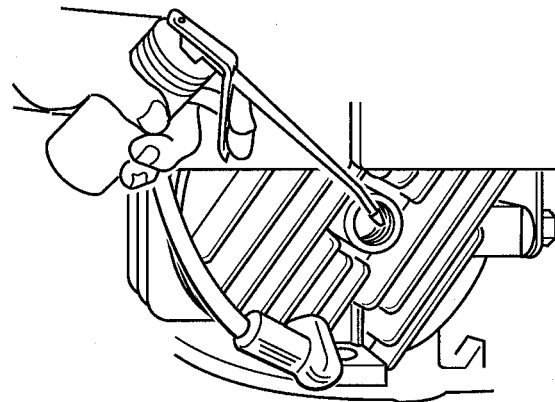

Figure 52
1. Remove spark plug. Using an oil can, squirt about one tablespoon of oil through spark plug hole (Fig. 52).